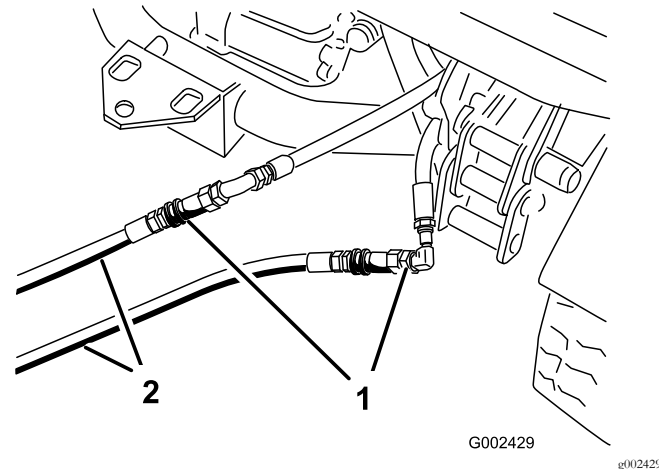

Figure 77
3. On the disabled machine, connect the 2 jumper hoses to the hoses that were disconnected (Figure 77).